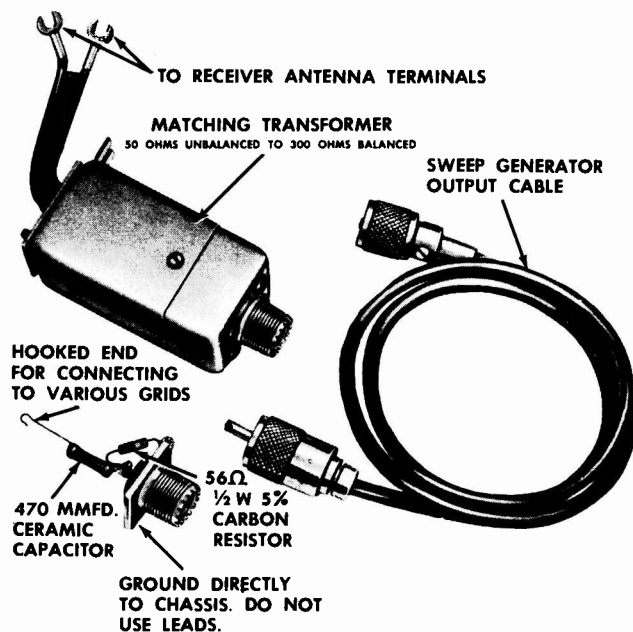

Fig. 14 IF-RF Alignment Fixtures
3. Feed the output from the sweep generator through the special termination unit shown in Fig. 14 to point "C" (Pin 1 of 6CB6, 3rd IF). Adjust the generator until a pattern similar to Fig. 16 is obtained.
3. Use a 50 to 300 ohm matching transformer (Fig. 14) and feed the output from the sweep generator to the antenna terminals of the receiver.